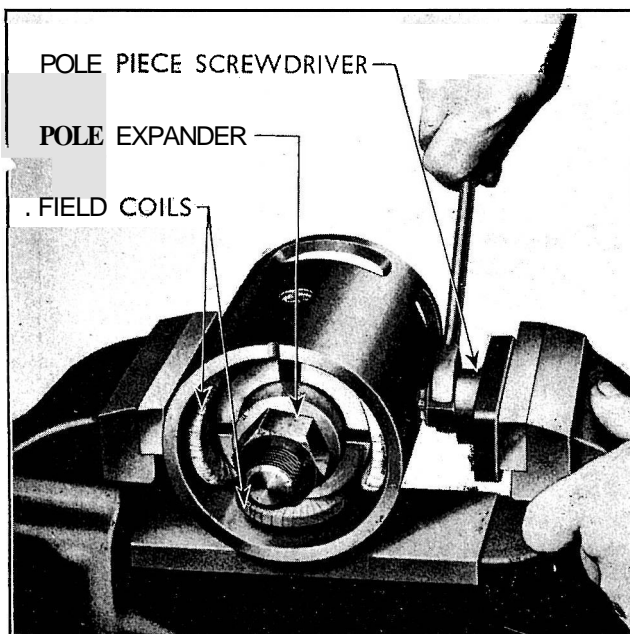

Fig. 258
- 3 Locate the pole piece expander in the starter yoke and tighten the nut to expand the tool against the pole pieces. Mount the starter yoke and pole piece screwdriver, tool No. AT2/U 10044, in a vice as shown in Fig. 258, and slacken the pole piece screws one at a time. Finally remove the screws with a crosshead screwdriver.
- 6 Place the starter yoke and pole piece screwdriver in a vice and tighten the screws securely, as shown in Fig. 258.